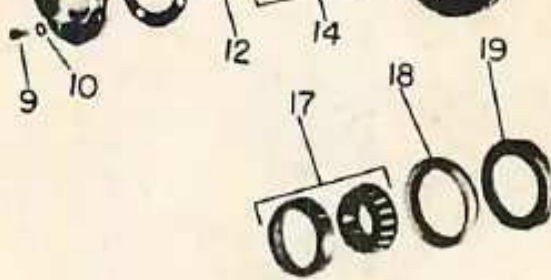

Fig. O4 — Exploded view of front wheel hub, bearing and seal assembly used on Rowcrop and Utility models.
pin can be installed. Bearing adjustment is correct when torque of 20 inch-pounds is required to rotate wheel. Renew gasket (11—Fig. O4) when installing cap on Rowcrop or Utility model hub.
8. Refer to Fig. O4 for exploded view of Rowcrop and Utility model front wheel bearing and seal installation and to Fig. O3 (items 1 through 14) for Wheatland and Industrial models.
To install new seal (3—Fig. O3, or 18—Fig. O4), first apply thin coat of gasket sealer to outer metal rim of seal. On Rowcrop or Utility model, install seal in wheel hub (15—Fig. O4) with Oliver ST-97 or ST-145 Seal Driver and ST-125 Mandrel or equivalent tool. On Wheatland or Industrial model, install seal in spindle carrier (5—Fig. O3) with Oliver ST-123 or ST-146 Seal Driver and ST-125 Mandrel or equivalent tool. Apply thin coat of gasket sealer to inside of seal wearing cup (19—Fig. O4, or 2—Fig. O3) and install wearing cup on spindle using Oliver ST-98 Driver on Rowcrop or Utility model, or ST-124 Driver on Wheatland or Industrial model. Face of cup must be smooth and flat after installation.
When reassembling, wheel hub or spindle carrier and bearings should be packed with 1/2-pound of lithium or calcium base multi-purpose grease. Threads of plug (16—Fig. O4) in wheel hub or (6—Fig. O3) in spindle carrier should be coated with gasket sealer or white lead if plug has been removed.